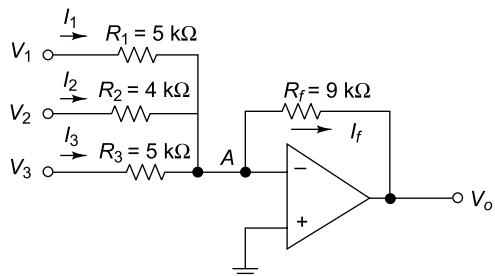

Fig. 5.88
24. An operational amplifier circuit is shown in Fig. 5.88. Determine the output voltage V_o and current flows through R_1 , R_2 , R_3 and R_f . Assume $V_1 = 3 \text{ V}$, $V_2 = -5 \text{ V}$ and $V_3 = 2 \text{ V}$